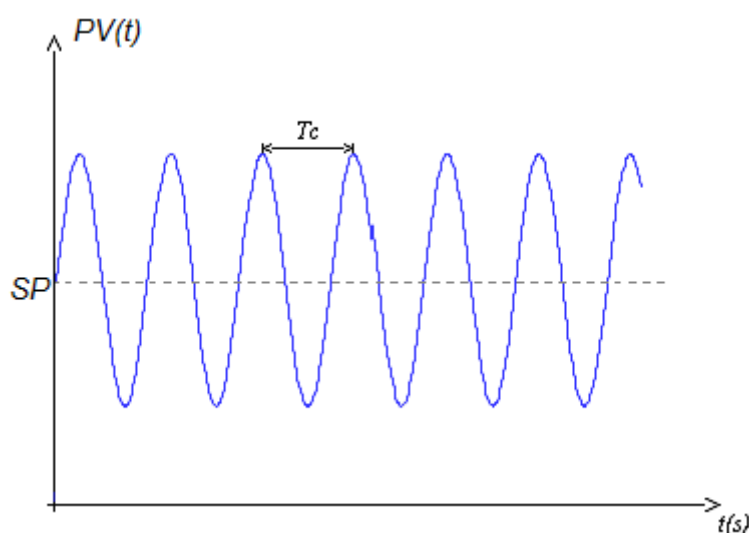

Figure 7-22. Oscillations with Constant Amplitude
- Increase the proportional gain with small increments. After each increment insert a small system disturb on the system using a small step on the set point (SP).
- To verify the behavior of the system (PV), the oscillation amplitude must increase as the gain increases. The critical gain (G_{Pc}) will be which generates oscillations with constant amplitude (or almost constant) according the Figure 7-22.